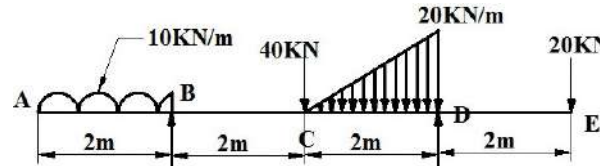

Figure 23
13. Draw shear force and bending moment diagram for overhanging beam as show in **Figure 23** and locate the point of contra flexure.